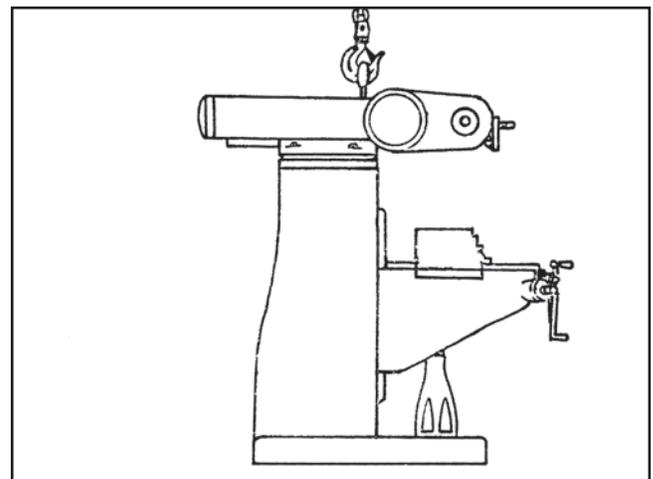

Figure 8. Using the eye bolt to lift the mill.
1. Keep the headstock in the same position it was shipped in, similar to **Figure 8**.